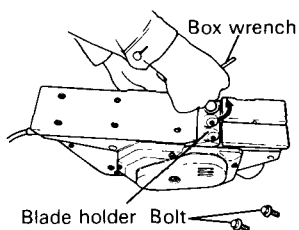

Fig. 6
(1)As shown in Fig. 6 use the accessory box wrench to withdraw the three bolts used to retain the cutter blade, and remove the cutter blade holder.